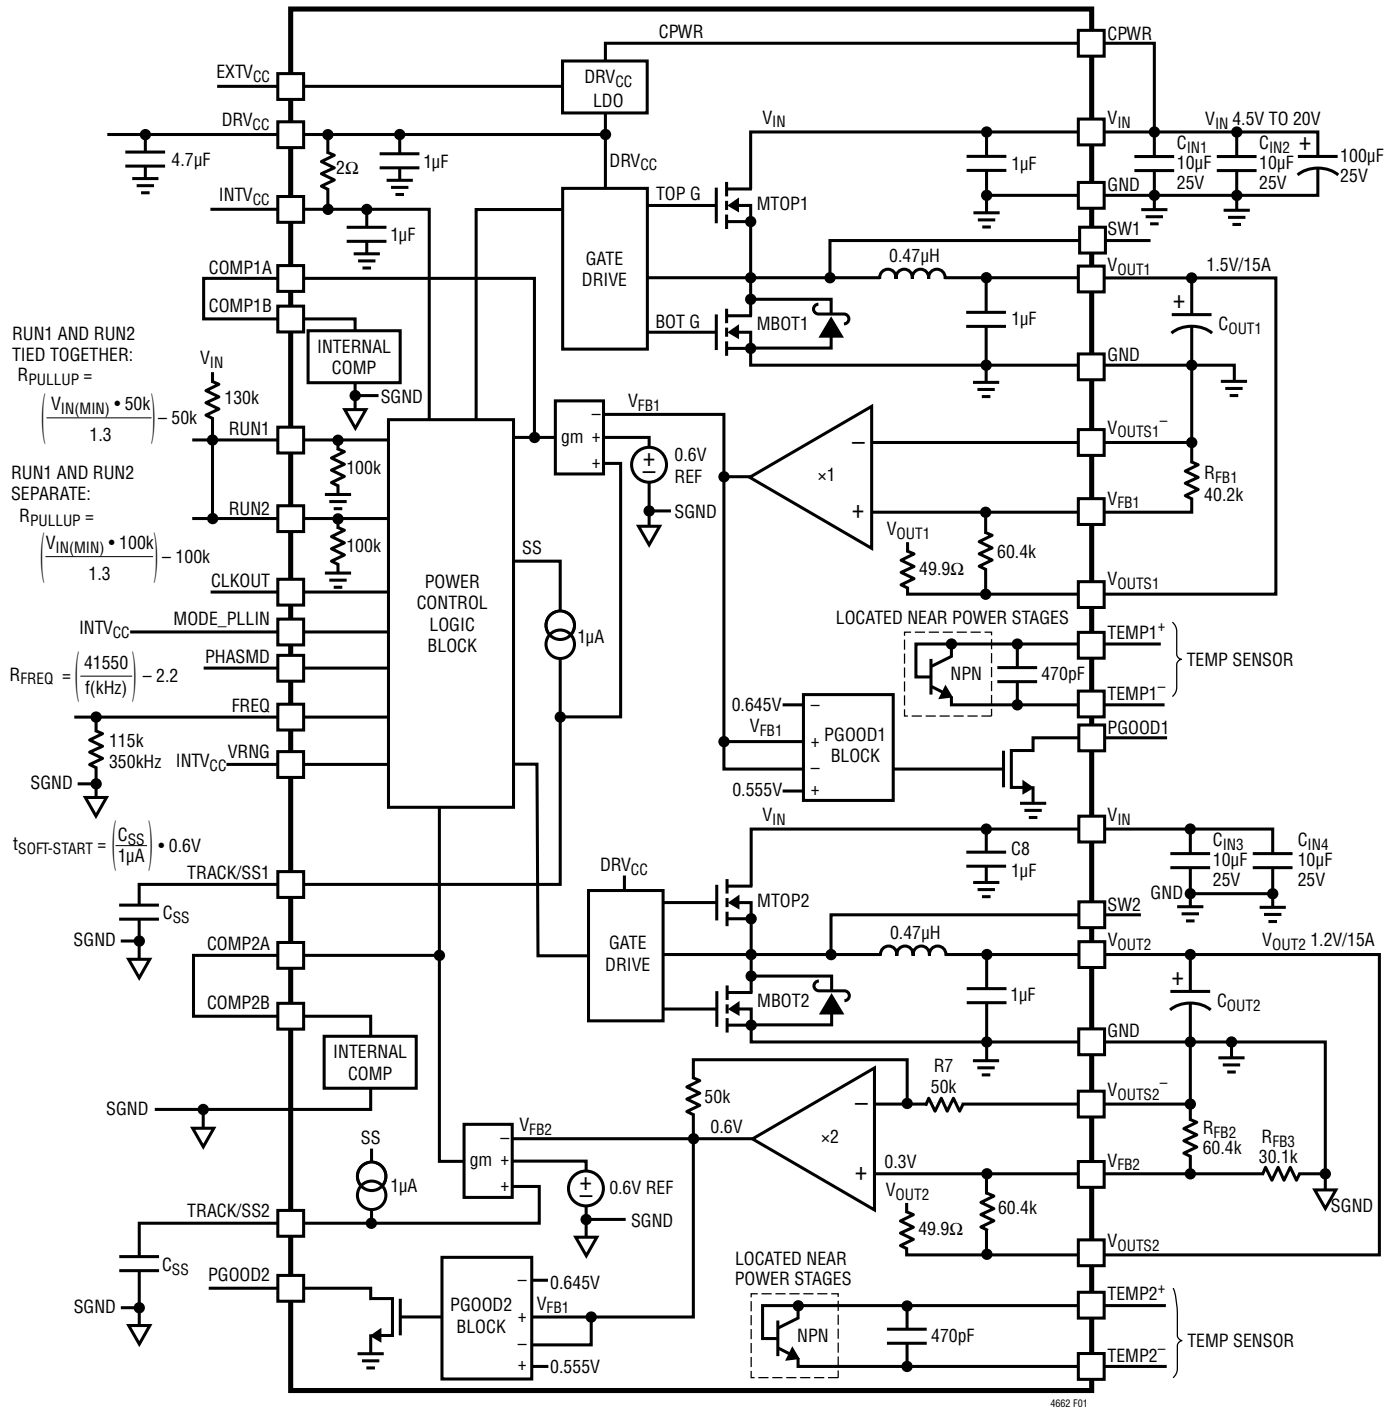

Figure 1. Simplified LTM4662 Block Diagram
**VFB1 (G4):** This pin is the + input to a unity gain differential amplifier. This pin is connected to VOUTS1 with a 60.4k precision resistor internal. Different output voltages can be programmed with an additional resistor between VFB1 and VOUTS1 pins. The differential amplifier is feeding back the divided down output voltage from a remote sense divider network to compare to the internal 0.6V reference. In 2-phase single output operation, tie the VFB1 pin to INTVCC. See Figure 1 and Applications Information section for details.
**VFB2 (E4):** This pin is the + input to a non-inverting gain of two amplifier utilizing three resistors in the feedback network to develop a remote sense divider network. This pin is connected to VOUTS2 with an internal 60.4k precision resistor. The VOUT2 voltage is divided down to 0.3V then gained back up to 0.6V to compare with the internal 0.6V reference. This technique provides for equivalent remote sensing on VOUT2. See Figure 1 and Applications Information section for details.
RUN pin will turn on the DRVCC, and turn on the INTVCC path for operation. See Figure 1 and Applications section.
## DECOUPLING REQUIREMENTS $T_A = 25^\circ\text{C}$ . Use Figure 1 configuration.
The PWM controller has an internal 0.6V reference voltage. As shown in Figure 1, a 60.4k internal feedback resistor connects between the  $V_{OUTS1}$  to  $V_{FB1}$  and  $V_{OUTS2}$  to  $V_{FB2}$ . It is very important that these pins be connected to their respective outputs for proper feedback regulation. Each channel has a 49.9 $\Omega$  resistor connected from  $V_{OUTS1}$  and  $V_{OUTS2}$  to  $V_{OUT1}$  and  $V_{OUT2}$ , respectively. This is used to protect the output if  $V_{OUTSn}$  is open or left unconnected. The  $V_{OUT1}$  output voltage will default to 0.6V with no feedback resistor on  $V_{FB1}$ . Adding a resistor  $R_{FB1}$  from  $V_{FB1}$  pin to  $V_{OUTS1}^-$  programs the output voltage: